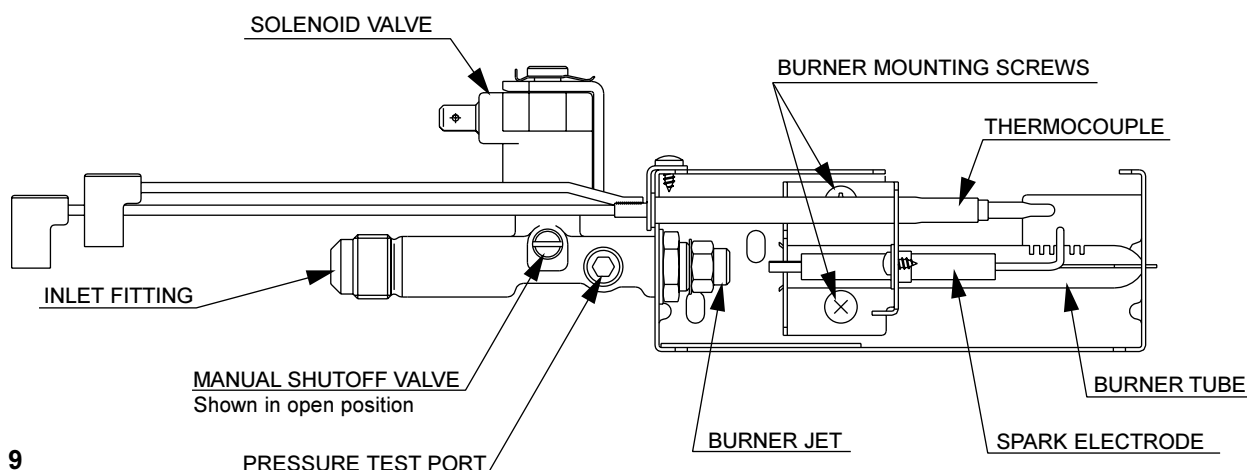

FIG. 9
- D. The LP gas pressure should be checked and the main regulator readjusted if pressure is incorrect. The correct operating pressure is 11 inches of water column. The correct place to take the LP gas pressure is at the test port just ahead of the burner jet. (See FIG. 9).
6. Remove the burner mounting screws and remove the burner assembly. (See FIG. 9).
Set main regulator so pressure does not drop below 11 inches of water column at pressure test port. (See FIG. 9).